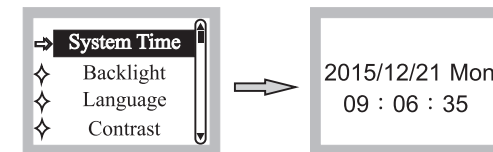

Fig. 17
- (3) Changing Date & Time: Press Parameter knob to enter the System Time setting mode, press Parameter knob to change. Press Parameter knob to confirm, Fig. 17